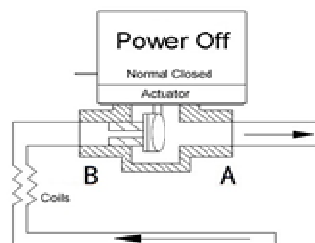

Figure 1: 2-port valve(normal closed) pipeline installation
1. When install the normal closed valve, the flow direction should be from B port to A port. (Meet figure 1)